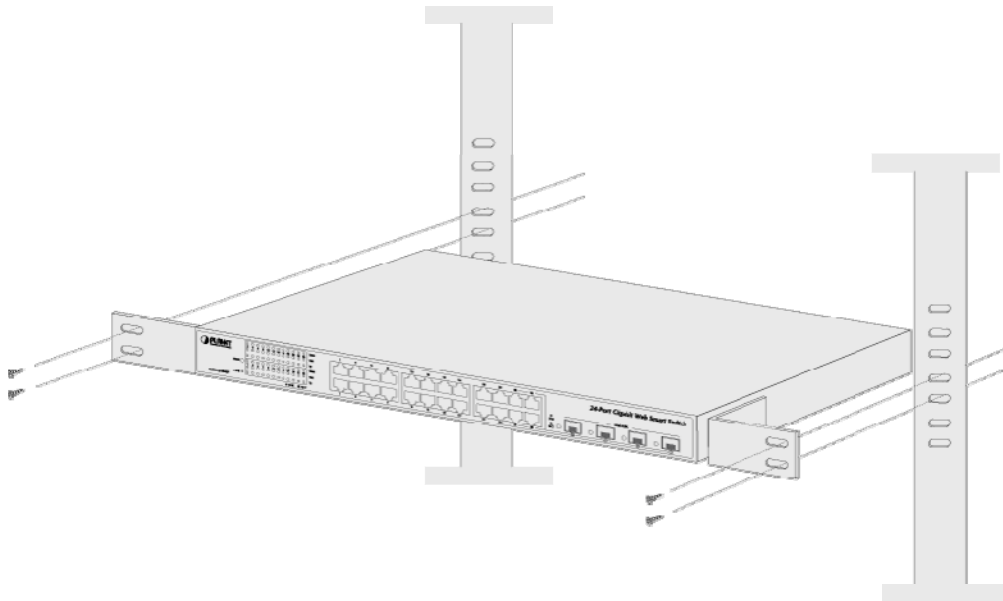

Figure 2-9 Mounting the Switch in a Rack
Step5: After the brackets are attached to the Switch, use suitable screws to securely attach the brackets to the rack, as shown in Figure 2-9